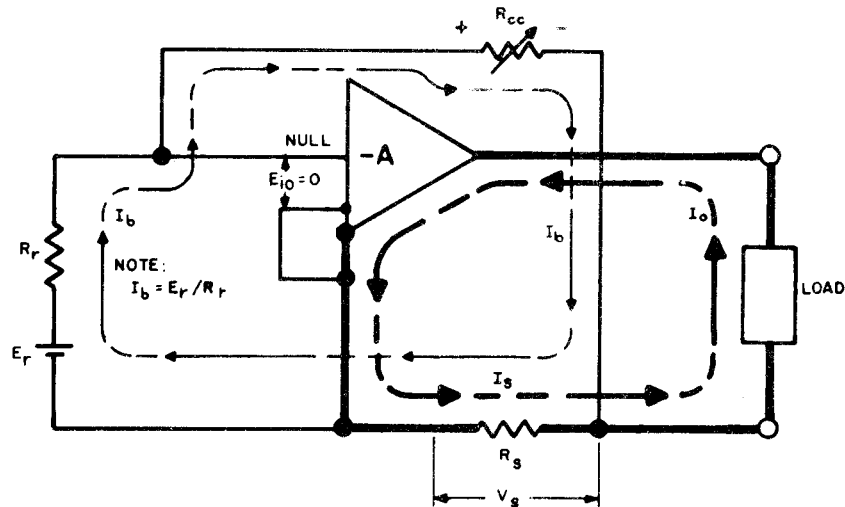

FIG. 3-3 IDEAL CURRENT STABILIZER.
- 3-11 To familiarize the user with the terminology and the basic equations pertaining to the CC, a simplified analysis of the circuit will be presented and the transfer function derived. The significant electrical components of the current stabilizer circuit can be represented as shown in FIG. 3-3.